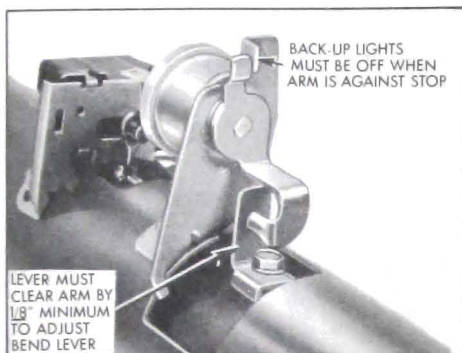

Figure 10-61—Back-up Light Switch - Second Gear
in reverse as the lever is not in position to pick up the switch arm when the shift is made to other gears. Figure 10-61 shows position of lever to switch arm when transmission is in second gear. A slotted switch mounting screw hole permits movement of the
3. If back-up lights are on in second gear, check position of operating lever to switch arm. There should be at least 1/8" clearance. If necessary bend lever. See Figure 10-61.
4. If back-up lights are on all the time, check to see if switch arm is against its stop when transmission is not in reverse. See Figure 10-61. If arm is against stop, try bending stop to reposition arm and turn lamps off.